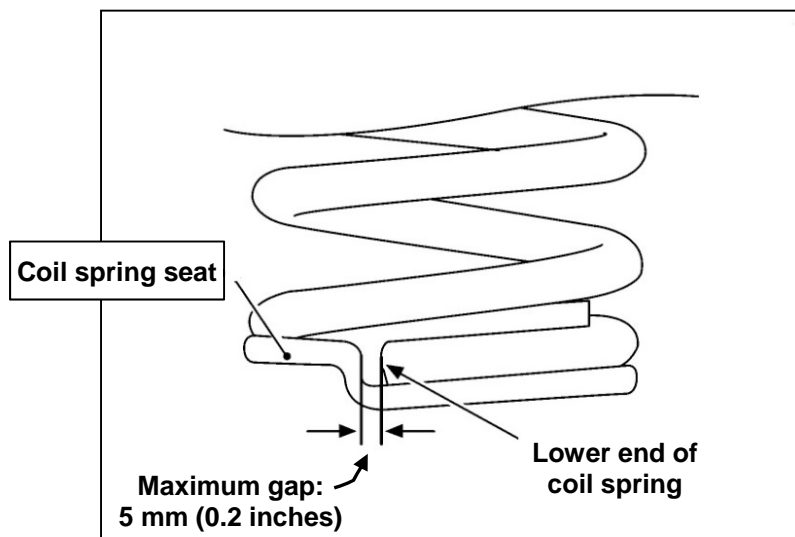

Figure 19
- c. Align the coil spring by placing its lower end as shown in Figure 19.